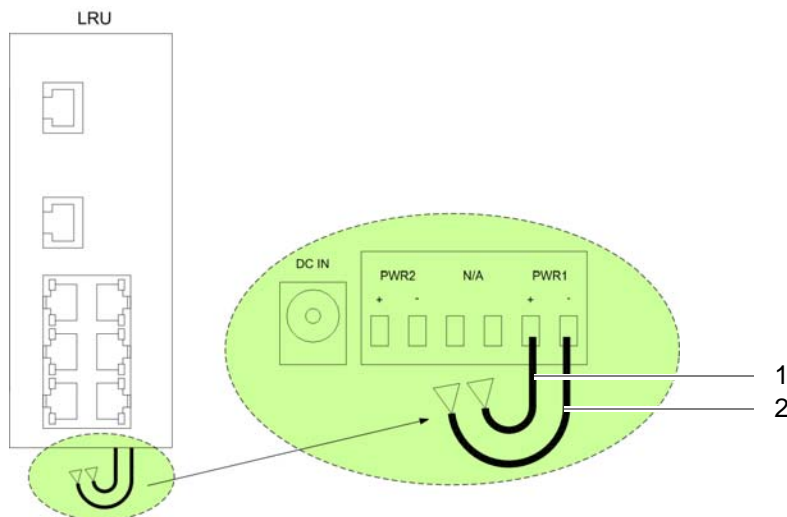

Figure 5.10 Voltage supply connection of the LRU
Figure 5.10 shows the voltage supply connection of the LRU. The following table describes it in detail.
1. Connect the voltage supply cable to the LRU according to the labeling, refer to Figure 5.10 on page 102.